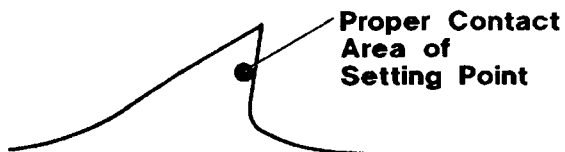

FIG 2-10
2. Adjust the blade rest screws so the setting point will contact the proper point on the tooth (See Figure 2-10). As tooth height varies due to "gumming out" of the gullet during sharpening, the rest screws will need to be adjusted to ensure the setting point contacts the tooth at the midpoint of its height. Slide the blade to the left or right so the setting point contacts the tooth as close to the front edge of the face as possible. Lock the blade in position with the clamp handle.